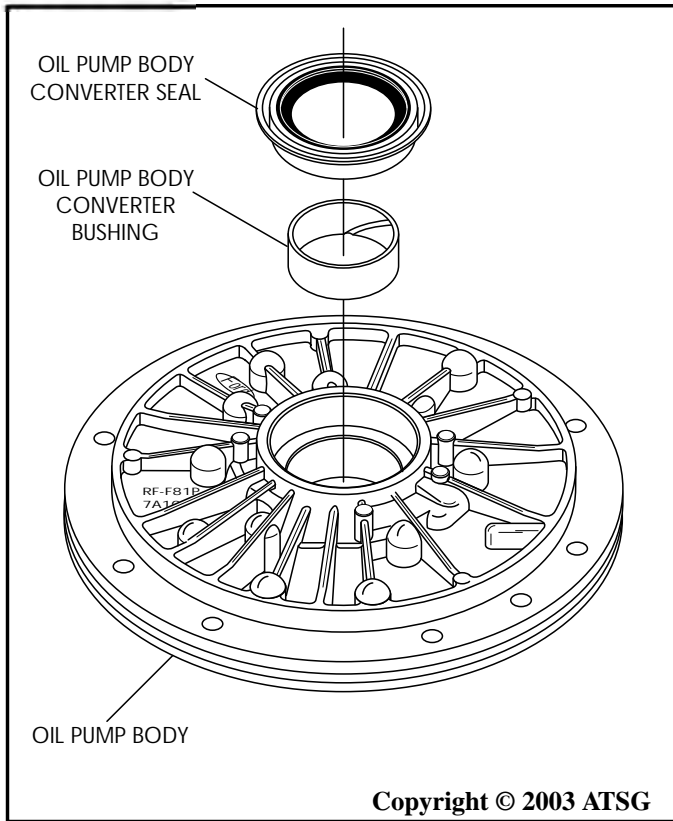

Figure 161
5. Install new converter bushing into the oil pump body, as shown in Figure 161, using the proper drivers for removal and installation.
6. Install new converter hub seal into the oil pump body, as shown in Figure 161, using the proper drivers for removal and installation.